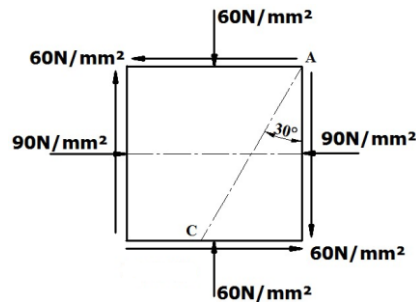

Figure 15
13. The state of stress in two dimensional stressed body is shown in **Figure 15**. Determine principle stresses, principle planes and maximum shear stress .Determine also the normal and tangential stresses on Plane AC .Verify the results